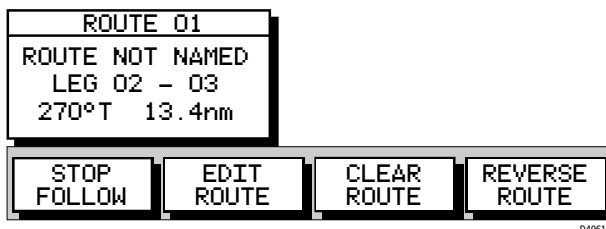

Figure 3-40: Stop Follow Soft Keys
3. If following the current route, the STOP FOLLOW soft keys are displayed as shown in *Figure 3-40*.